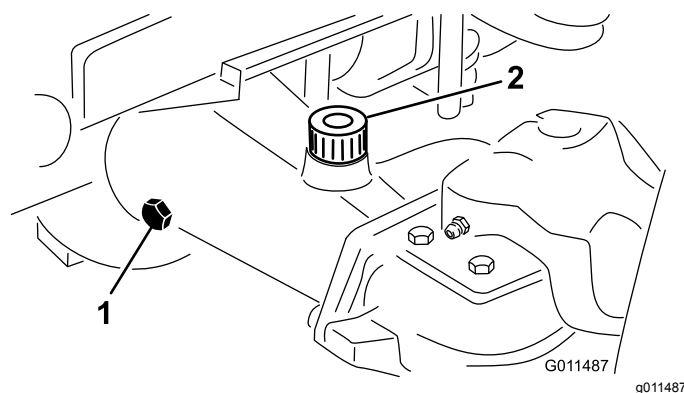

Figure 106
- Remove a check plug from the end of the axle and ensure that the lubricant is up to the bottom of the hole (Figure 106).